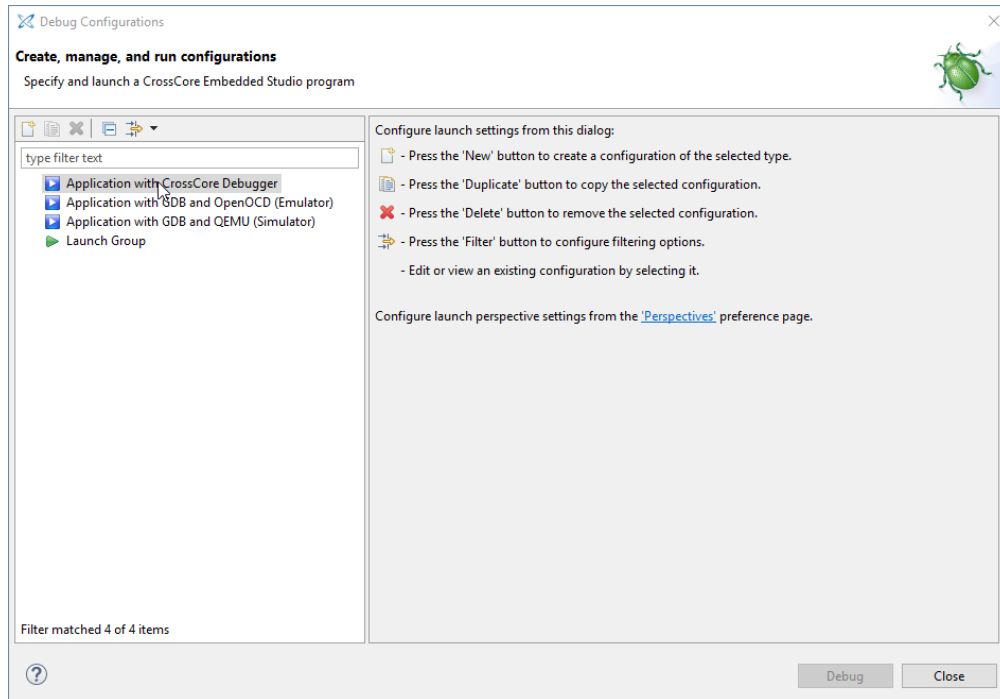

Figure 13 Adding the new debug session
- a. Add new item to *Debug with Crosscore debugger* (Figure 13)